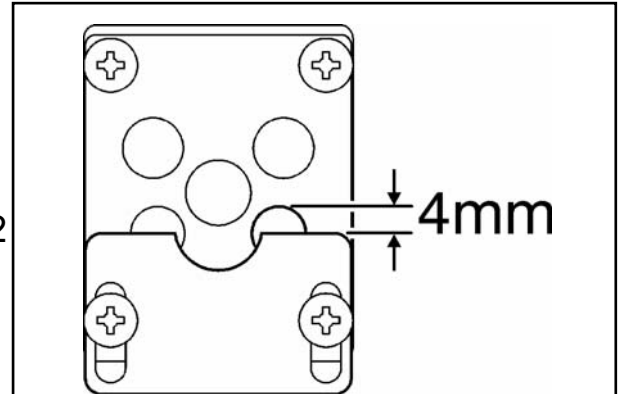

Figure 32. Aeration shutter setting
1. The aeration shutter is factory set and should not require adjustment. If the shutter is not as shown in figure 32 and requires adjustment, loosen the two aeration shutter screws, slide the aeration shutter to the position shown in figure 32 and tighten the fixing screws.